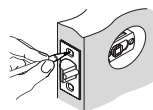

Figure 3c
- Insert Latch Assembly in hole keeping it parallel to face of door. Mark outline and remove latch (Figure 3c).